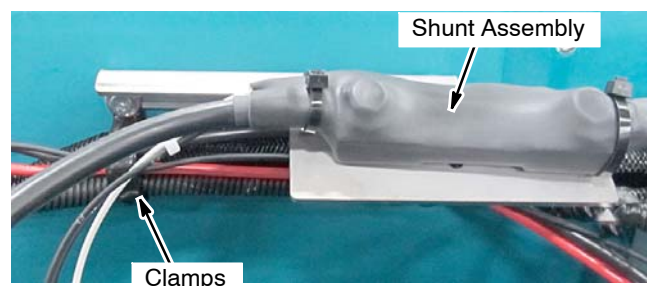

FIG. 4
5. Remove the telemetry harness and battery charger cables routed through clamps as shown (FIG. 4).